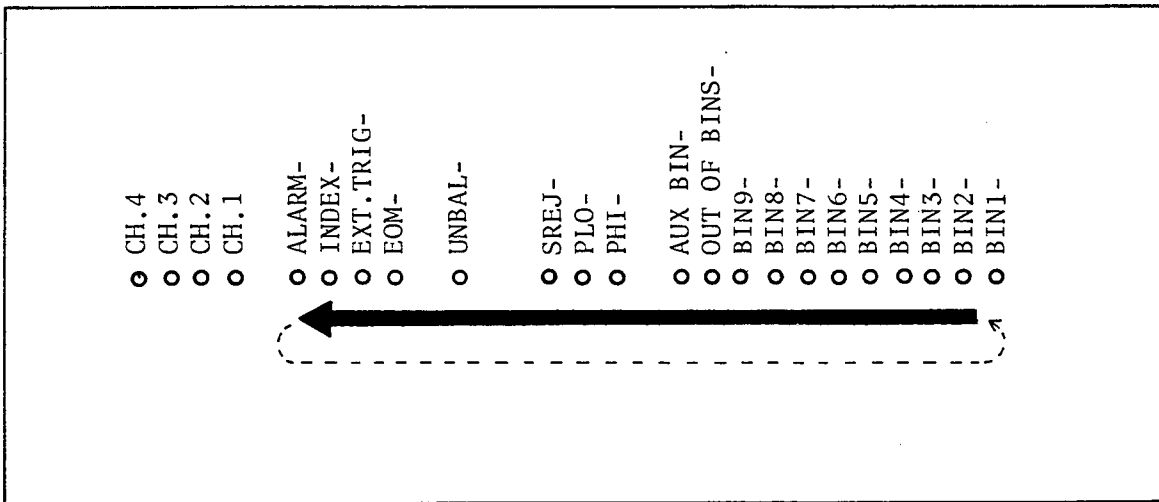

Figure 6-13. Handler Interface Function Check (Option 201)
18. Confirm that the LEDs on the handler simulator board light in the sequence shown in Figure 6-13.